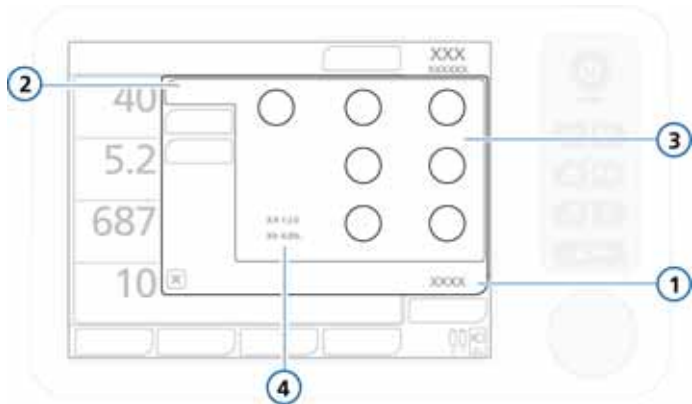

Figure 5-5. Basic settings, Controls window
- In addition to control settings, the Basic window displays breath timing parameters determined from timing control settings; see Figure 5-5.
1. Open the **Controls** -> **Basic** window (Figure 5-5).
After you select a different mode, the **Basic** window automatically opens (Figure 5-5), showing the new mode name and parameter settings. Review and confirm these proposed settings or the mode change will not be accepted.